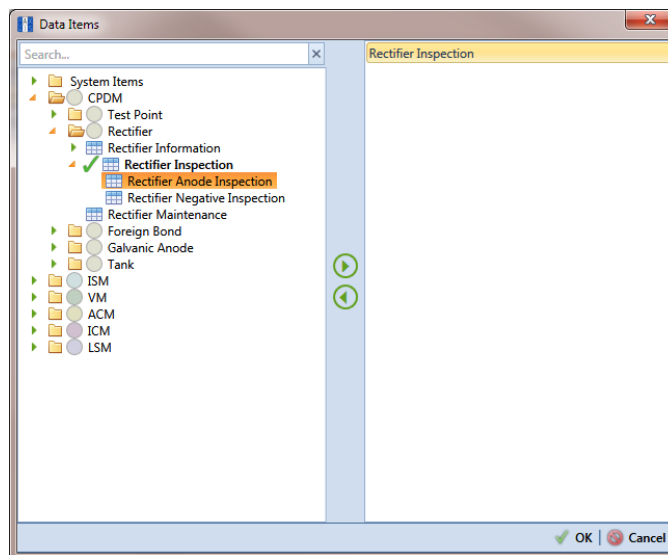

Figure 9-19. Data Items
- 13** Choose the data item(s) you want to export from PCS Axis. Click  **Add Data Item** to open the *Data Items* window and then complete the following steps (Figure 9-19):